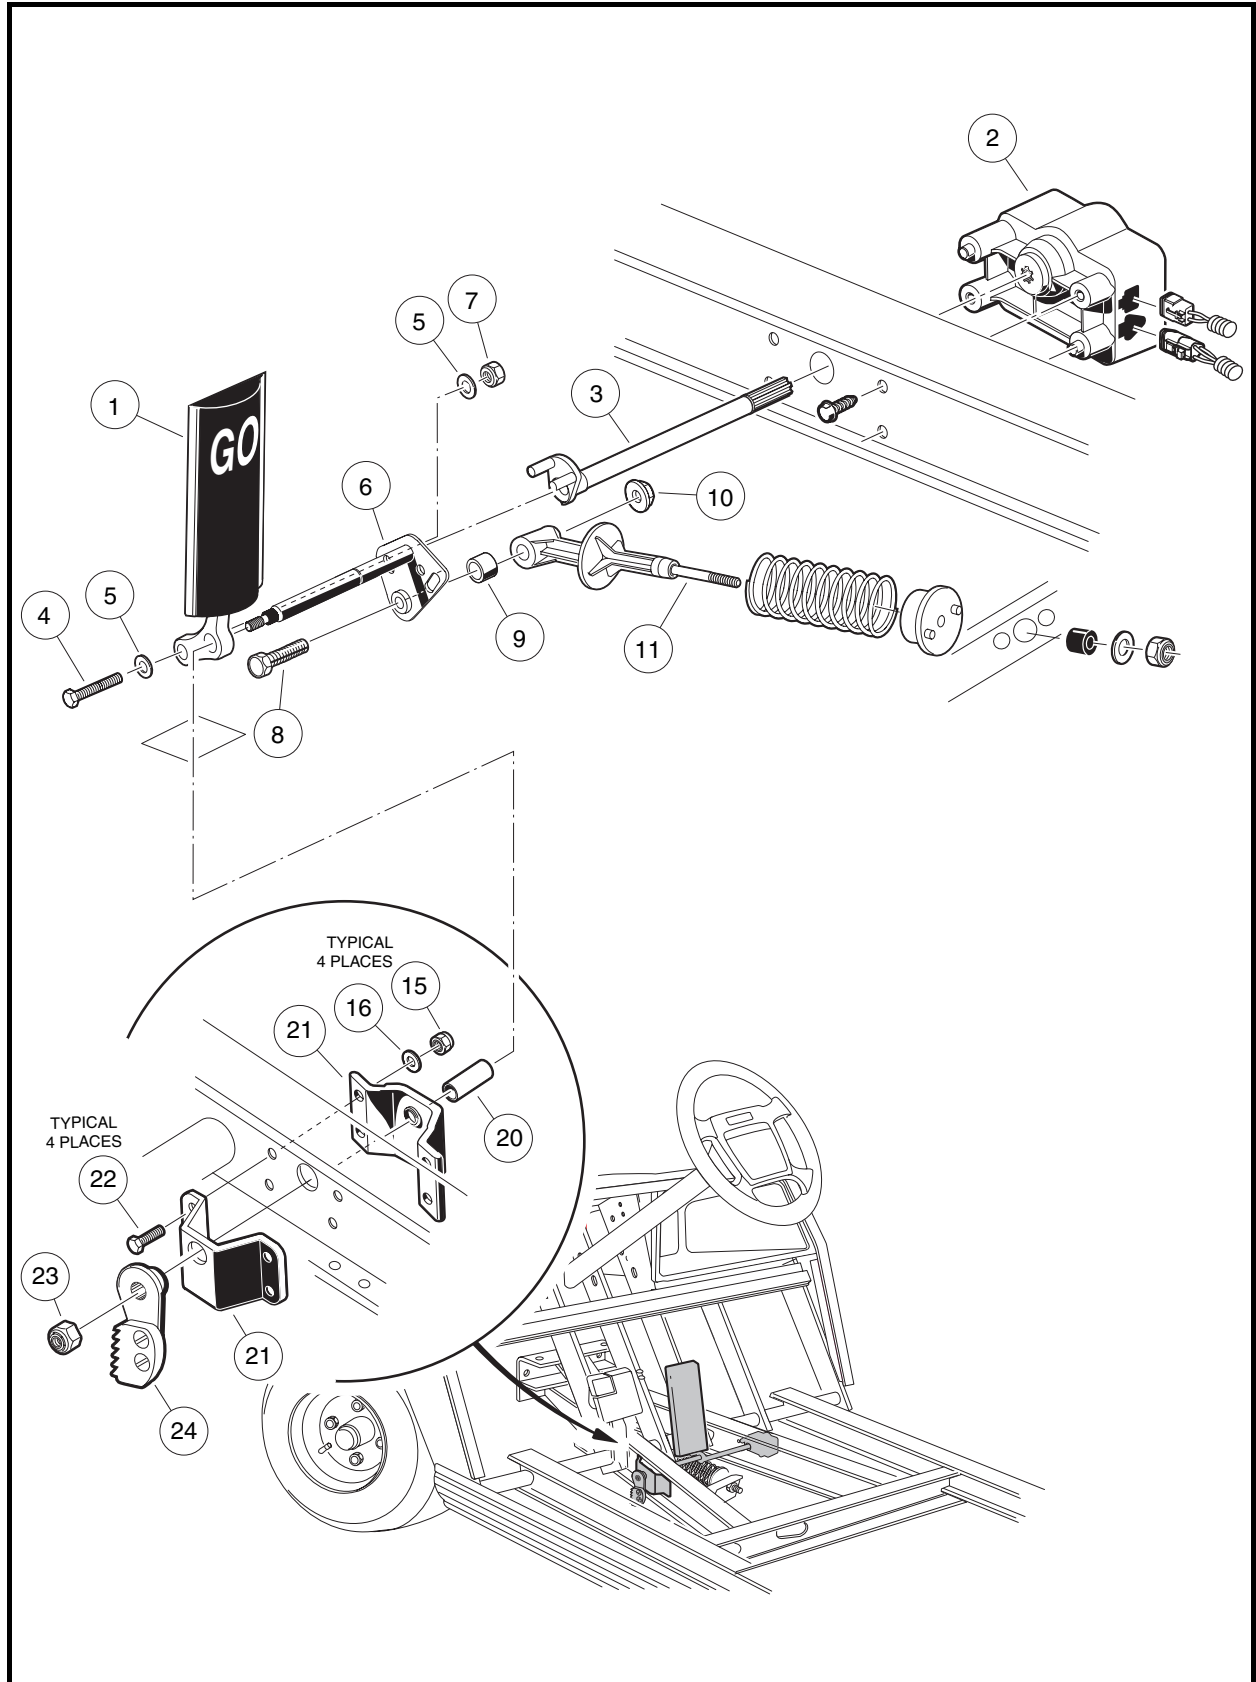

Figure 5-8 Accelerator Pedal – Electric Vehicle
3. Remove the MCOR (2) and drive bar (3) as instructed (**Figure 5-8, Page 5-10**). See **MCOR Removal, Section 12, in the appropriate maintenance and service supplement.**
4. Use a 9/16-inch socket and 9/16-inch wrench to remove the nut (7), two washers (5), and bolt (4) securing the accelerator pedal (1) to the pivot rod (6) (**Figure 5-8, Page 5-10**).
5. Remove the nut (10) and bolt (8) from the accelerator pivot rod assembly (6).
6. Slide the spring retainer (11) off of the accelerator pivot rod.
7. Inspect the pivot support bearing (9) for wear and replace if necessary.
8. Use a marker to mark the position of the park brake ratchet (24) on the accelerator pivot rod (6). See following **NOTE.**
9. Remove the lock nut (23) from the accelerator pivot rod.
10. Press the brake pedal slightly and slide the park brake ratchet (24) toward the end of the accelerator pivot rod. Rotate the ratchet and remove it from the pivot rod.
11. Remove the pivot rod (6) and spacer (20) from the accelerator pivot rod supports (21) (**Figure 5-8, Page 5-10**).
12. Inspect the accelerator pivot rod supports (21) for wear and damage and replace as necessary. If the pivot rod supports do not require replacement, loosen, but do not remove, the four bolts (22) and lock nuts (15) to make installation of the pivot rod easier.
13. Remove the accelerator pedal (1) from the vehicle (**Figure 5-8, Page 5-10**).
1. If the accelerator pivot rod supports were replaced, position the supports (21) on the vehicle frame and install the four bolts (22), flat washers (16), and lock nuts (15) (**Figure 5-8, Page 5-10**). Finger-tighten nuts at this time.
2. Insert the lower end of the accelerator pedal (1) through the floorboard and install the accelerator pivot rod (6) through the uppermost hole in the pedal.
3. Install plastic spacer (20) on pivot rod (6).
4. Insert the pivot rod through the pivot rod supports (21) on the vehicle frame.
5. Tighten the four bolts (22) attaching the pivot rod supports to the frame to 75 in-lb (8.5 N·m) (**Figure 5-8, Page 5-10**).
6. Insert the bolt (4), two washers (5), and a new lock nut (7) through the lower hole in the pedal and through the pivot rod. Finger-tighten lock nut at this time.
7. Install the bolt (8) through the pivot rod (6) and spring retainer (11). Secure these parts with the nut (10) (**Figure 5-8, Page 5-10**). Tighten the nut to 50 in-lb (5.5 N·m).
11. Install lock nut (23) on pivot rod (**Figure 5-8, Page 5-10**). Tighten to 18 ft-lb (24.5 N·m).
12. Install the MCOR (2) and drive bar (3) as instructed. **See MCOR Removal, Section 12, in the Power-Drive Maintenance and Service Supplement.**